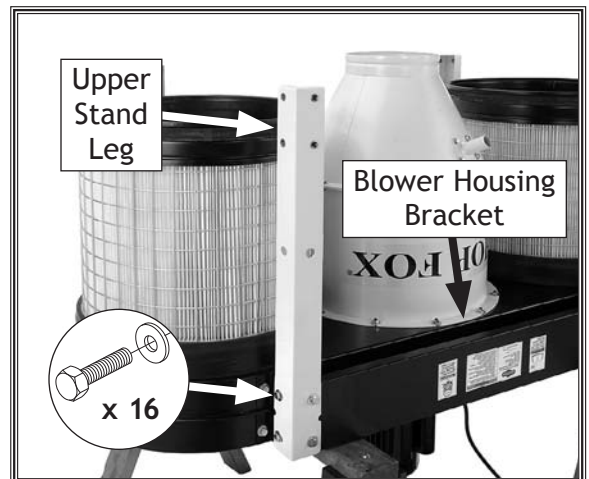

Figure 12. Upper stand leg properly attached to the blower housing bracket.
7. Attach the four upper stand legs to the blower housing brackets with (16) $\frac{3}{8}$ "-16 x $\frac{3}{4}$ " hex bolts and (16) $\frac{3}{8}$ " flat washers, as shown in **Figure 12**.